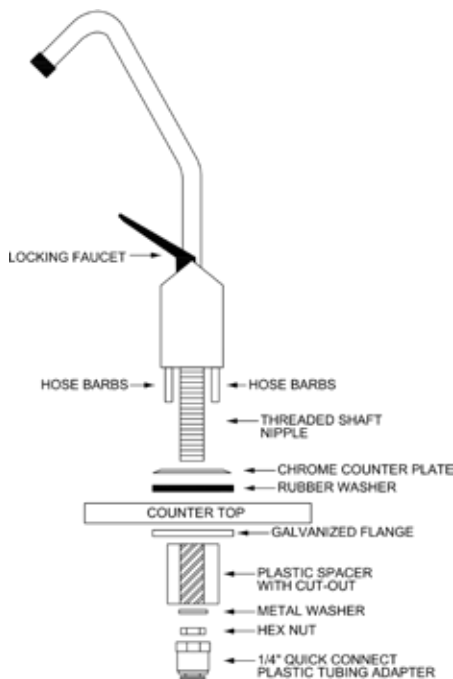

Figure 2
1. Refer to Figure 2 and determine the location for the drain saddle assembly and drain hole. It must be located above the "P" trap ("U" shaped bend in drain pipe) on the sink side of the drain pipe.